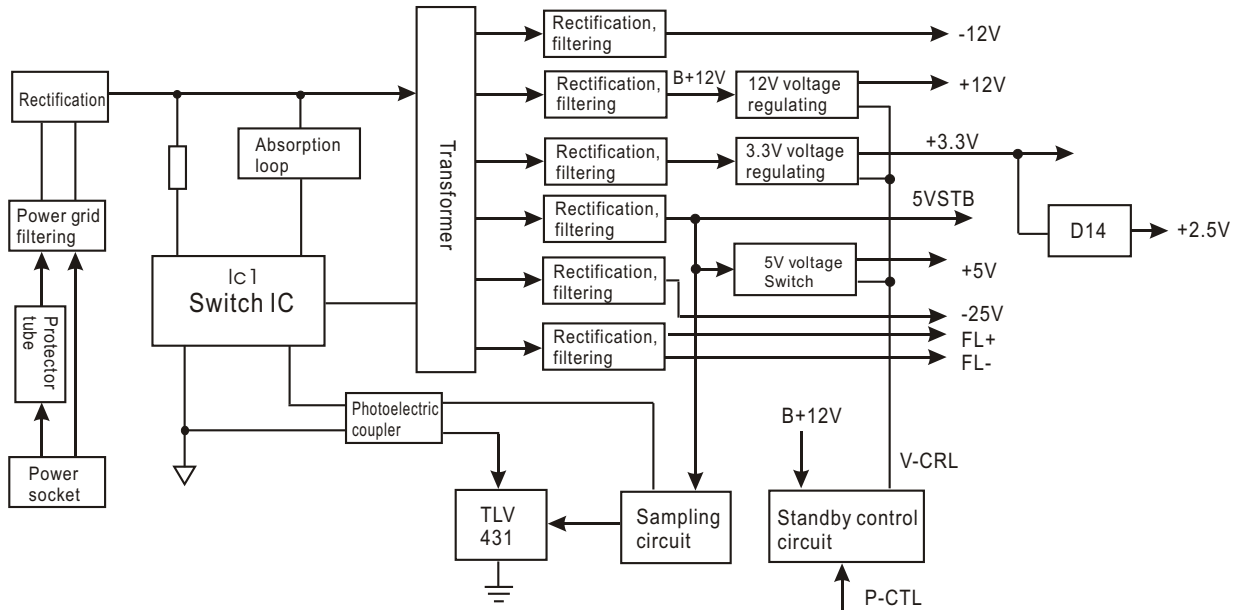

Figure 3.2.15.1 Power circuit block diagram
1. Power circuit block diagram is shown in the figure 3.2.15.1: